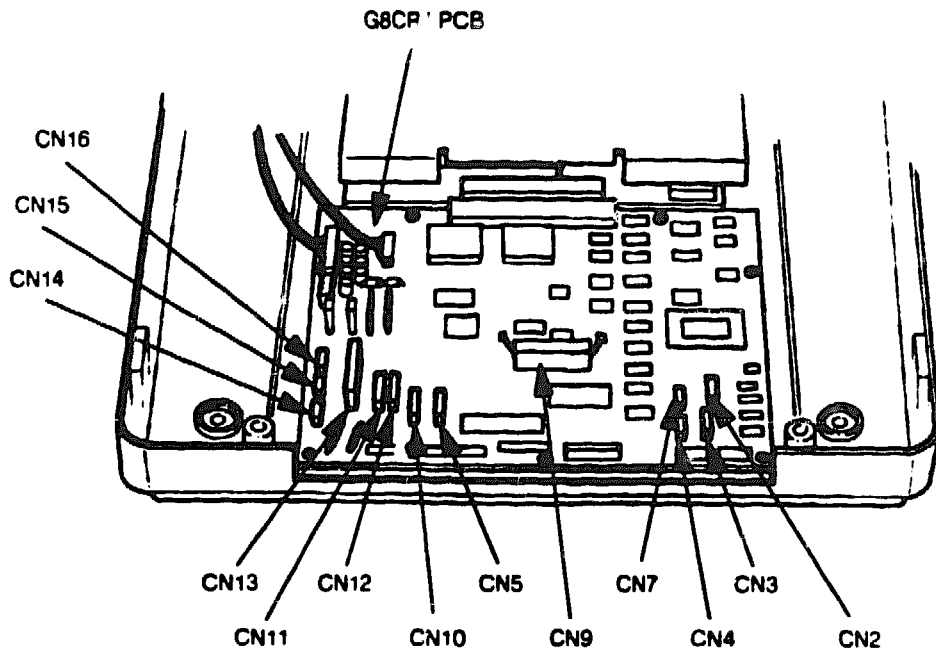

Figure 6-69 G8CRJ Connector Locations
7. Unplug connectors CN2 to CN5, CN7, and CN9 to CN16 from the G8CRJ PCB (see Figure 6-69).